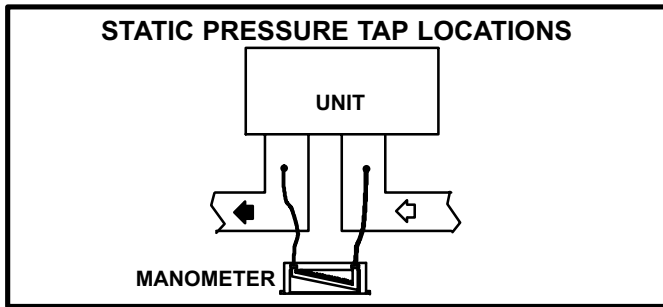

FIGURE 25
- a- Locate taps as shown in figure 25.